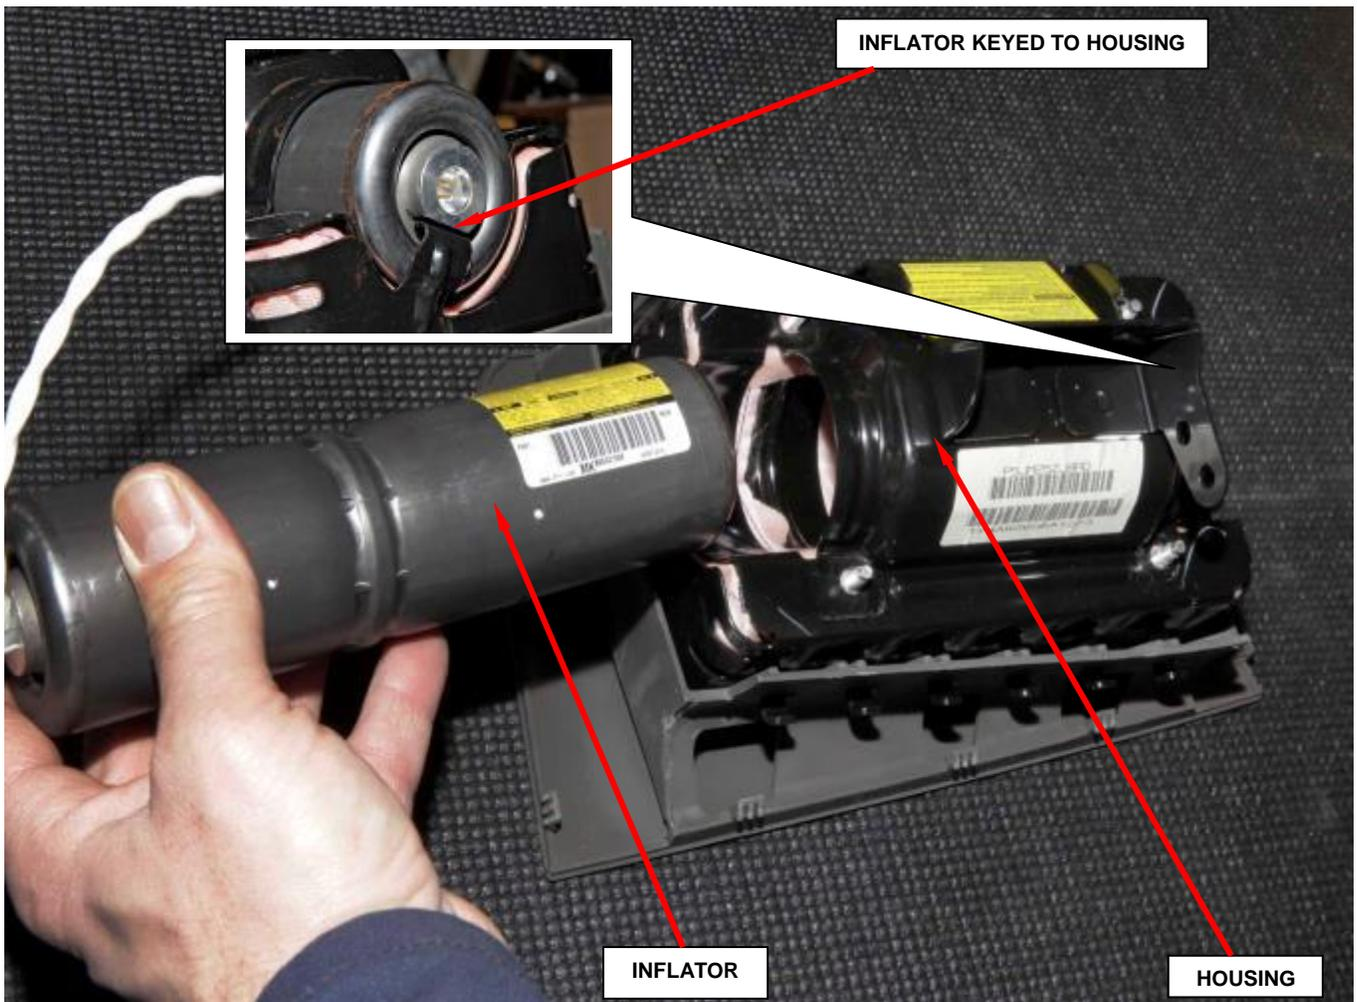

Figure 38 – Inflator Installation
- g. Slide the new inflator into the housing (Figure 38).